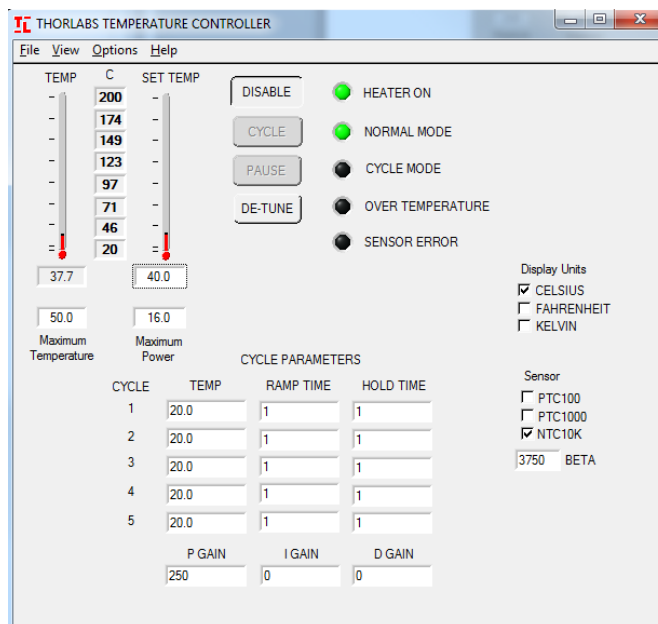

Figure 15 Active Connection – Normal Mode
- Figure 15 shows an active connection to a unit set to 40.0 °C and configured for NORMAL Mode.